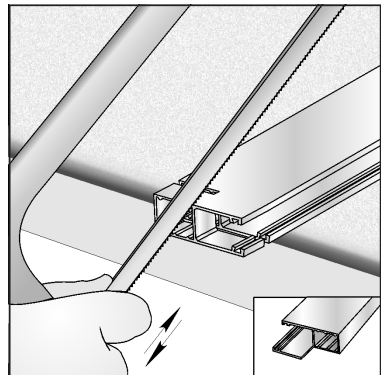

Fig. 04
- if necessary, making flanged edges of the guide rails followed by treatment of the cutting areas to remove spills (Fig. 04, 07);